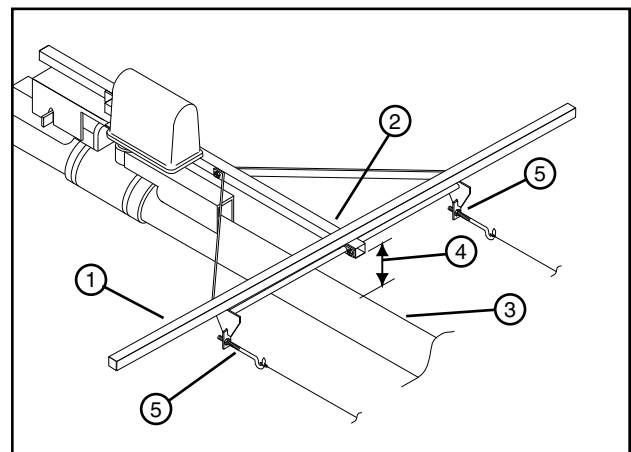

Figure 87-3 1. Weight 4. Weighted Measurement
3. Place a 13 lb (5.9 kg) weight on the alignment tube. Center the weight over the cable attachment assembly. See Figure 87-3.
4. Measure the distance from the end of the alignment tube to the span. This is the weighted measurement. See Figure 87-3.
5. Adjust the hook bolts evenly to obtain the proper cable deflection. See Figure 87-3.